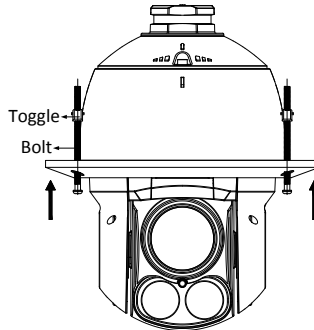

Figure 2-23 Install Toggle Bolts
- 4). Reinstall the toggles as shown in Figure 2-23.